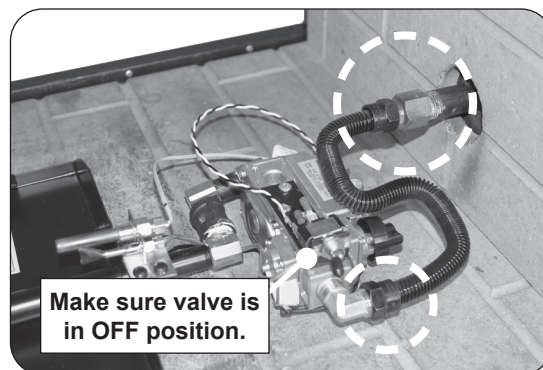

Fig. 16-3 Perform leak test
6. **LEAK TEST:** Make sure the burner valve is in the OFF position. Turn on the fireplace gas supply, and test at all connections for leaks using the appropriate soapy water solution. See Fig. 16-3. If bubbles appear, a leak is present. Turn off the gas and tighten at all connections. Repeat until no leaks are present. If a leak persists, turn off the gas supply and contact the local gas company or dealer. **NEVER USE A FLAME TO CHECK FOR LEAKS.**